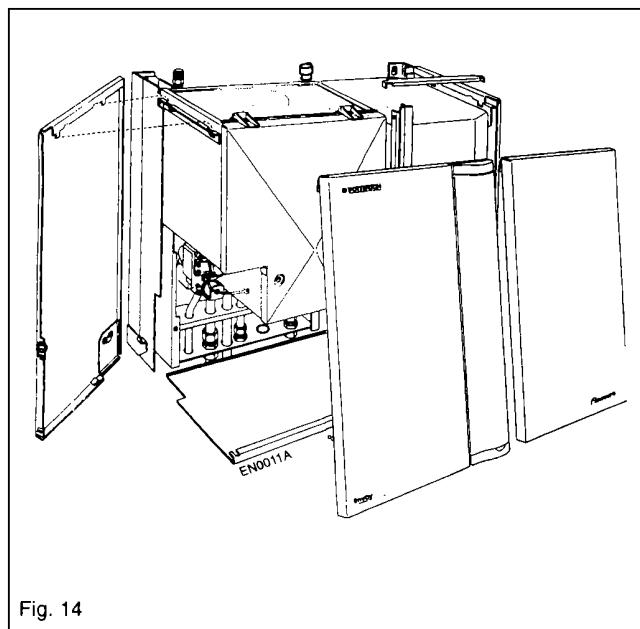

Fig. 14
- 3) Remove functional case door by undoing the two lower securing screws and lift door off the two upper hinge brackets. FIG. 14.